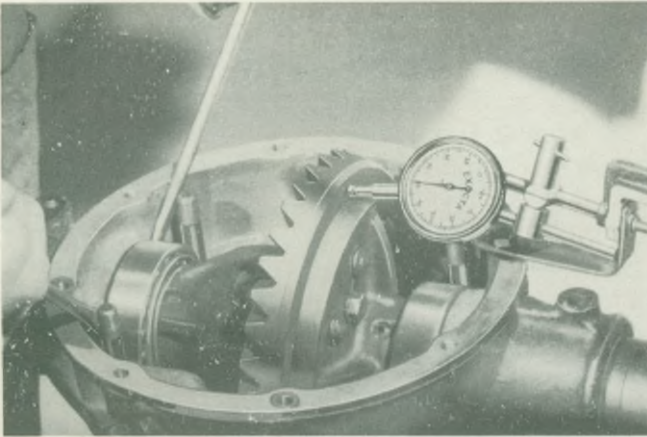

Fig. 20. Checking differential assembly end float
5. Check total end float in differential assembly as shown in Fig. 20. Note the end float, adding .006" for pre-loading, the total figure, which will probably approximate to .050", will give the thickness of shims required. Do not yet fit these shims. Now remove differential assembly and crown wheel from centre casing.